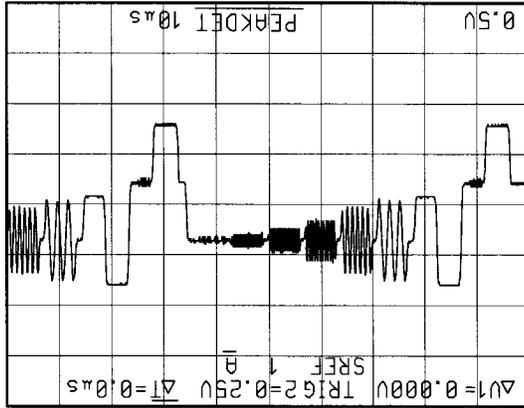

Figure 3-27: Multi-burst Signal Triggered in TV Line
- Step 6:** Adjust the **TRIGGER LEVEL** stabilize the display (Figure 3-27).